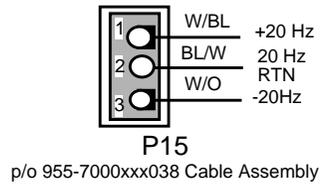

Figure 1-3. Test Head Ringing Wiring P15
- Step 5:* Connect the leads in accordance with the associated figures for the P15 connector of the 955-7000xxx038 cable (See Figure 1-3) at the ringing supply or an assigned fuse position for the test head.